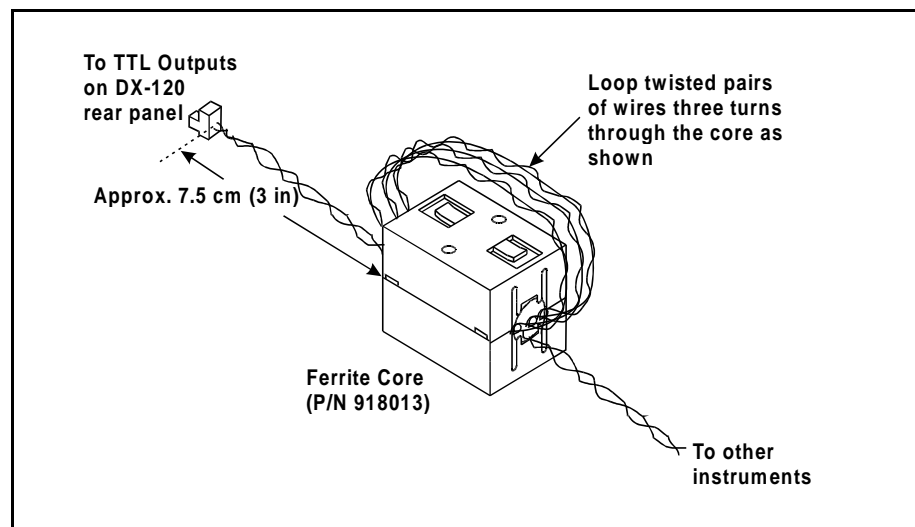

Figure B-13. Ferrite Core Installation on TTL Outputs Cable
2. Loop the wires or cable three turns through the core and snap it closed (see Figure B-13).